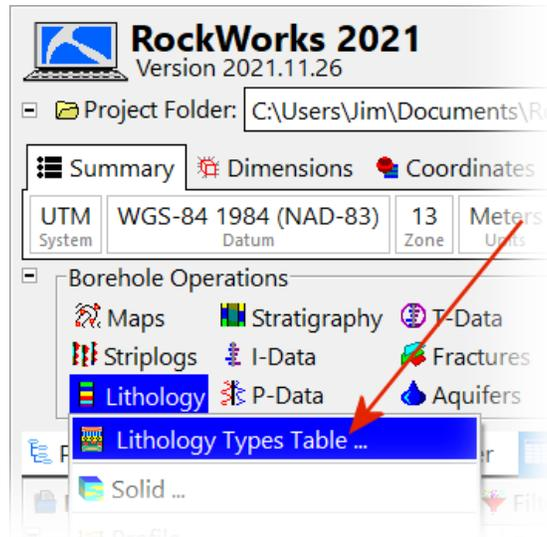

Figure 2
Step 1. Open the Lithology Types Table (Figure 2).